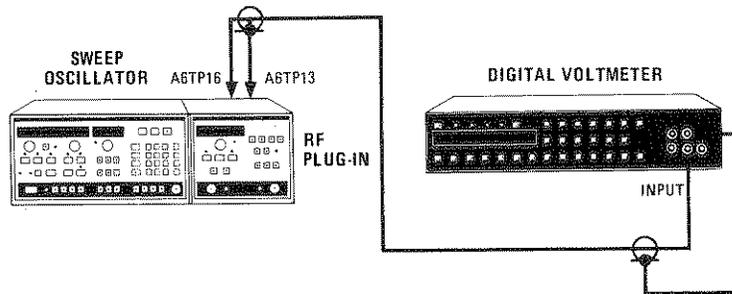

Figure 5-7. YO Driver Board Adjustment Test Setup
1. Float ground on DVM and connect floating ground to A6TP13 (+20 V FREQ. REF.). Connect measurement lead of DVM to A6TP16. (See Figure 5-7 and 5-8.)